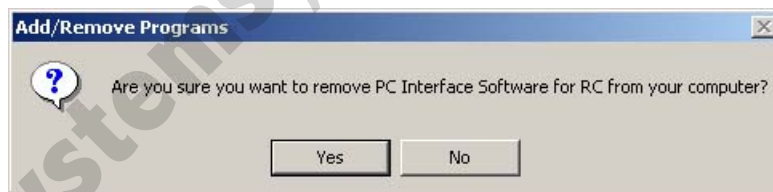

Fig. 1.11 File Delete Check
- [3] When a file delete check window (Fig. 1.11) is displayed, click **Yes**.